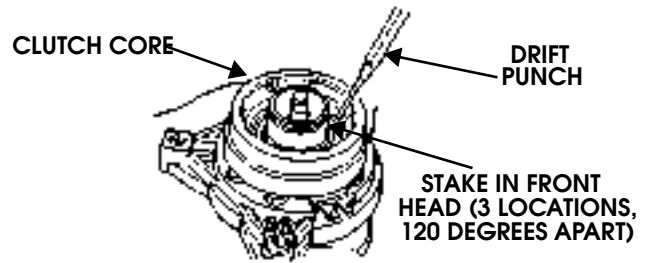

Figure 11-41: Drift Punch
5. When core is fully seated on the compressor, use a 1/8-in. diameter drift punch and stake the front head at three places, 120 degrees apart, to ensure clutch core remains in positioning (Figure 11-41).